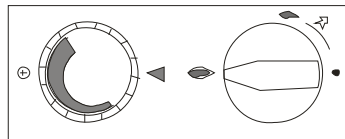

Figure 7 - Maximum Position
2. The preset maximum (as shown in **Figure 7**) is found by turning the control knob fully anti-clockwise. The control is infinitely variable between the two preset limits.